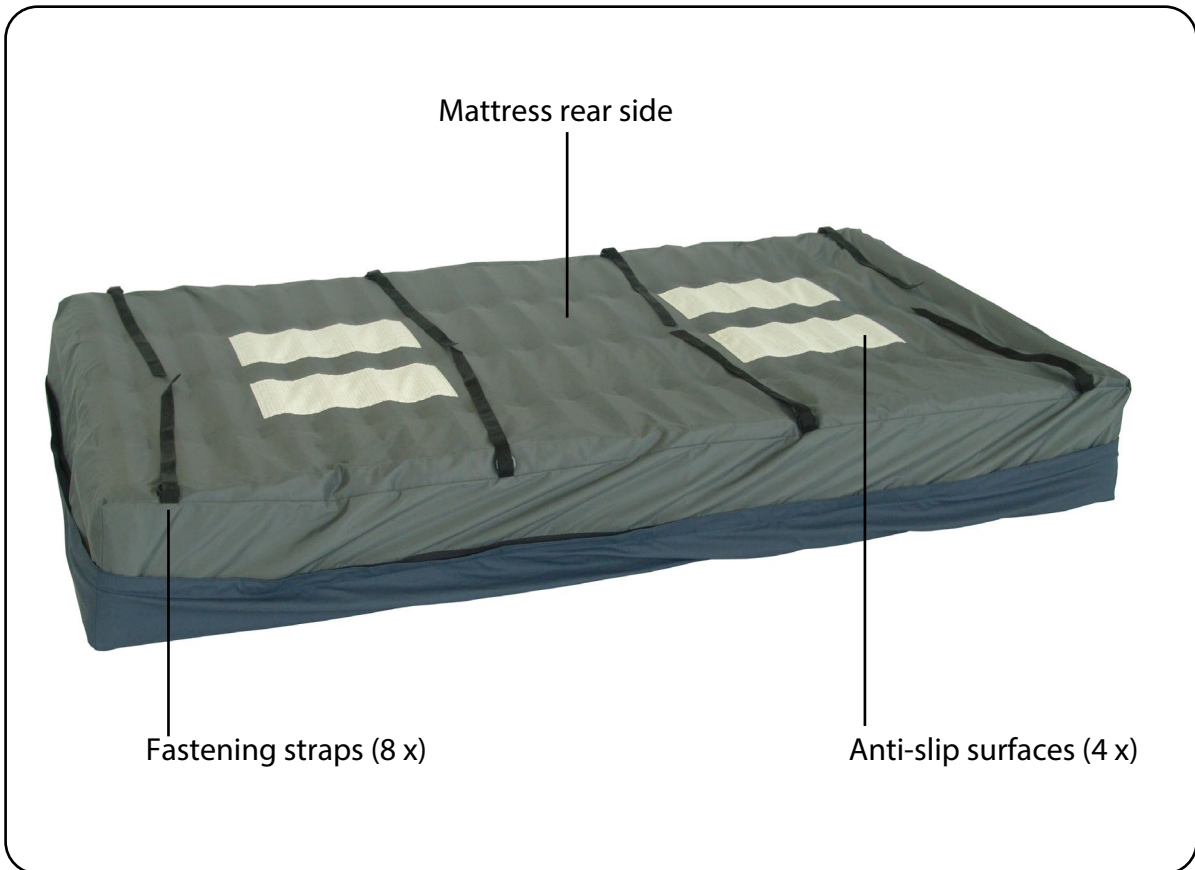

Fig. 5.04 - Underside of alternating pressure mattress
6. Fasten the alternating pressure mattress by placing the eight fastening straps on the underside of the alternating pressure mattress (Fig. 5.04) around the moving reclining surface and tightening them. Fixing the alternating pressure mattress is required in order to prevent slippage. Make sure that the fastening straps are not fastened to the outer frame of the bed. In the case of beds with an adjustable reclining surface, all movement functions of the bed must be able to be performed without damaging the alternating pressure mattress. The supply hoses of the alternating pressure mattress must be placed so that they are not kinked, crushed or twisted.